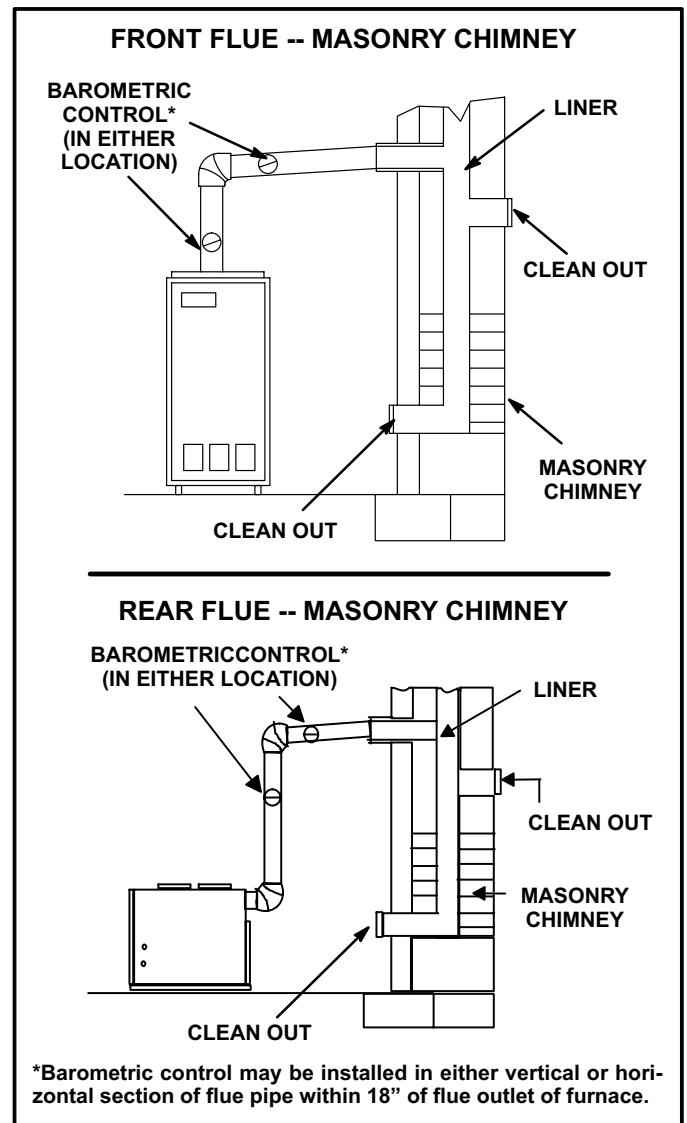

Figure 14
- 9 - The vent pipe should slope upward toward the chimney on horizontal run at least 1/4 inch (6 mm) to the foot (0.3 m) and should be supported by something other than the furnace, such as isolation hangers. See figure 14.